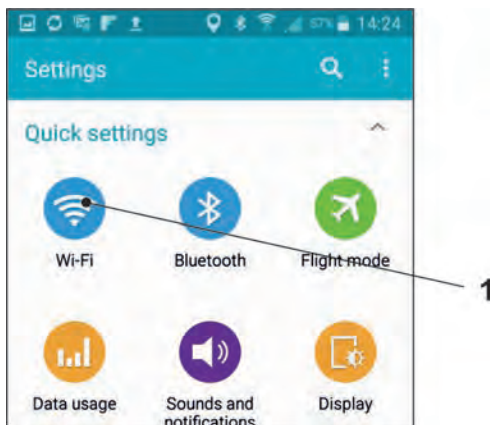

Fig. 31-3 WLAN symbol
3. Select WLAN (Fig. 31-3 Pos. 1).